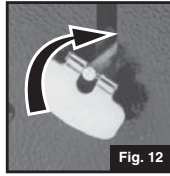

Fig. 12
- Close AUXILIARY VALVE. Turn LIGHTING LEVER to UP position. (Fig. 12 & 13)